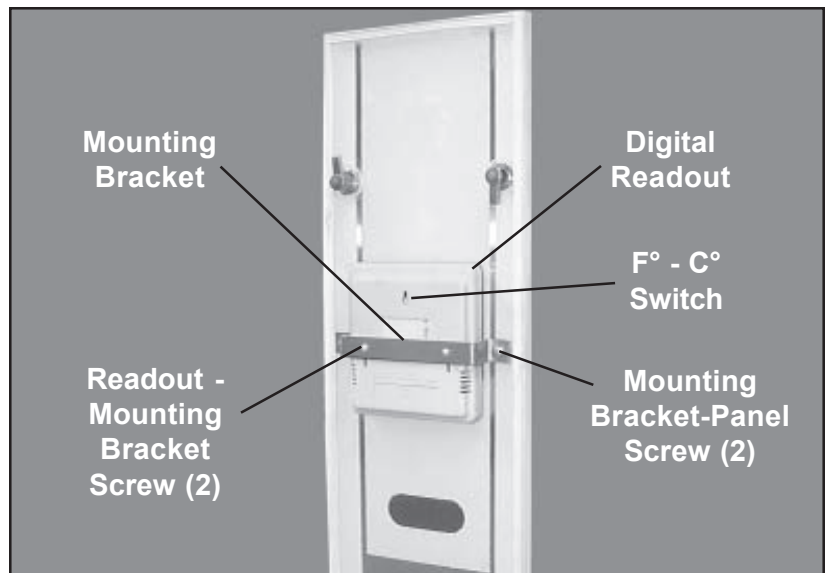

Figure 148. Digital Readout and Mounting Bracket
2. With a Phillips screwdriver, un-screw the two screws that hold the digital readout mounting bracket to the rear of the panel (Figure 148).
1. Mount the bracket to the new readout with the two screws removed above (Figure 148).
4. Carefully, and without spilling the contents, remove the Sodalime pan (Figure 148). Place the pan where it will be safe and not accidentally spilled. Observe the cautions shown on *Page 131*.